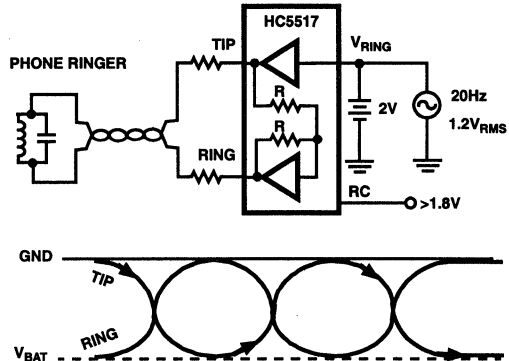

FIGURE 5. BALANCED RINGING
The HC5517 topology to ring a telephone is shown in Figure 5. Instead of removing the SLIC from the two wire lines as in the standard central office topology, the SLIC is left connected and the ring signal is supplied by the large amplifiers feeding the tip and ring lines internal to the SLIC. If the control line (RC) goes high, the SLIC is put into ring mode. In this mode the tip and ring terminals both slew to $V_{BAT}/2$ (40V if the V_{BAT} power supply is at 80V). Any signal on the V_{RING} pin is multiplied by a gain of 40 and appears across the tip and ring amplifiers. The rest of the hardware involved in this process will be described in the "Glue Circuitry" section.
The circuit in Figure 5 provides balanced non battery backed ringing at power levels adequate to ring 3 REN. A REN (Ring- ing Equivalency Number) is defined in the FCC specs as a standard impedance by which telephone systems can be measured and tested. A single REN is generally equivalent to an old desktop telephone with mechanical bell ringers. Therefore, the HC5517 would be capable of ringing up to three of these old phones. The vast majority of newer phones use piezo or other electronic ringers that make use of only a fraction of a REN. In that type of situation many phones could be rung simultaneously. The ring signal is also not battery backed; this brings the peak voltages down to a much lower level that is simpler and cheaper to generate and creates less of a safety issue inside the computer (see Figure 5). Telephones and other equipment only respond to the AC RMS signal, so the lack of a DC bias is not a requirement for ring. The primary requirement to ring all telephones reliably is for